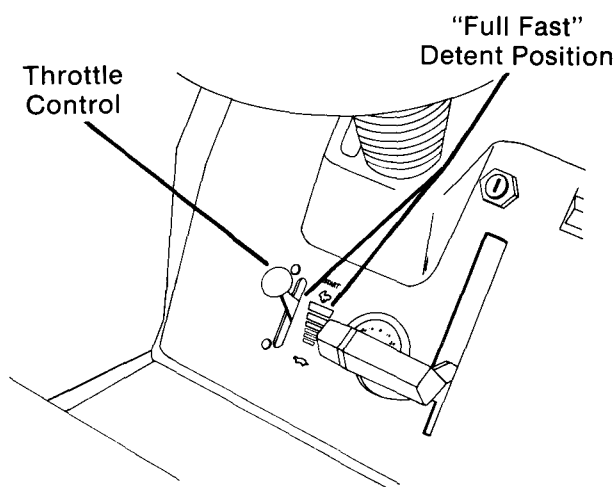

FIG. 18
- a. **(12 H.P. Engines Only)** Move throttle control lever up to the "FULL FAST" position. (Fig. 18) Attach end of throttle cable to top rear hole on inside control lever. Position cable under cable clamp and move throttle cable until tang on speed control lever just touches throttle adjustment screw. (Fig. 16) Tighten cable clamp screw after choke cable has been adjusted. See CHOKES - ADJUSTMENT.
- b. **(17 H.P. Engines Only)** Move throttle control lever up to the "FULL FAST" position. (Fig. 18) Push throttle cable thru hole in screen and baffle plate and attach end of throttle cable to end hole on speed control lever (under air cleaner on right side). Position cable under cable clamp towards the rear until speed control lever just touches tang. (Fig. 17) Tighten cable clamp.